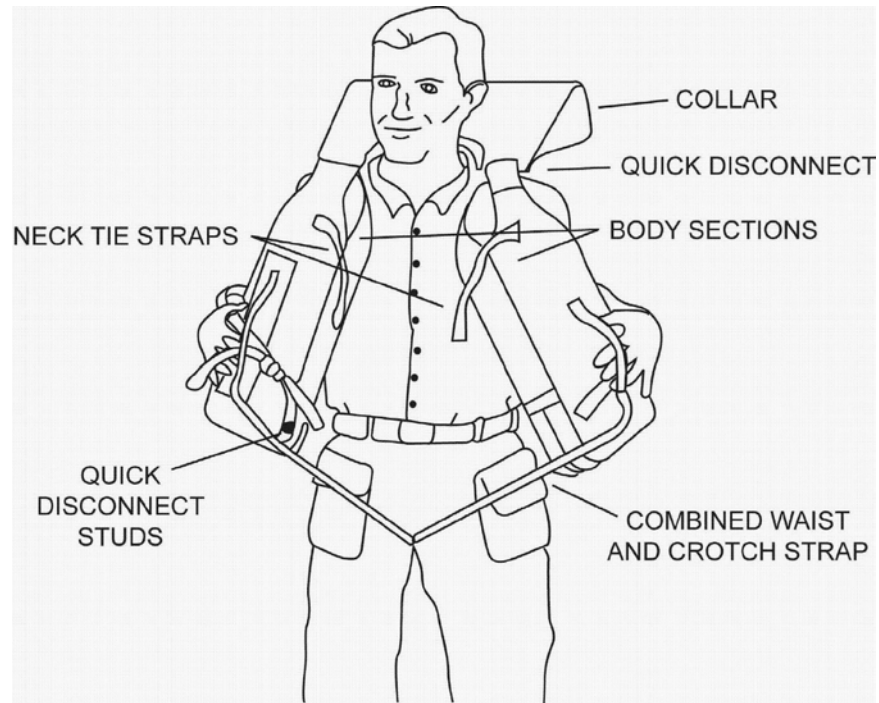

Figure 077-2-3. Yoke Type Life Preserver
077-2.2.4 YOKE TYPE. The inherently buoyant yoke type life preserver is illustrated in Figure 077-2-3. This life preserver provides 50 pounds of buoyancy. The primary use of this type of life preserver is for pack carrying troops in amphibious operations. The life preserver is worn around the neck and can be removed with one hand without affecting the backpack.
- b. Place the life preserver around the neck and bring it down in front, as shown in Figure 077-2-3.